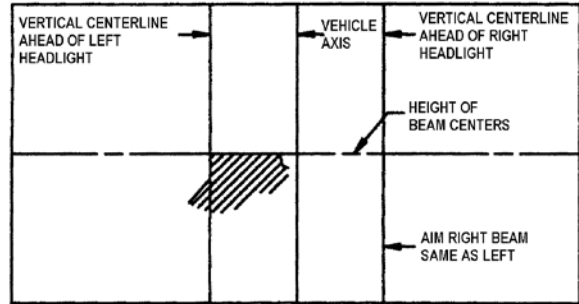

FIGURE 35: LOWER BEAM HIGH-INTENSITY ZONE PROPER LOCATION ON SCREEN 06504
6. Low beam headlights are aimed so that the top edge (the cutoff) of the high-intensity zone is at the vertical location as per Table 1 and the left edge of the high-intensity zone is at the vertical centerline of the headlight (Figure 35).